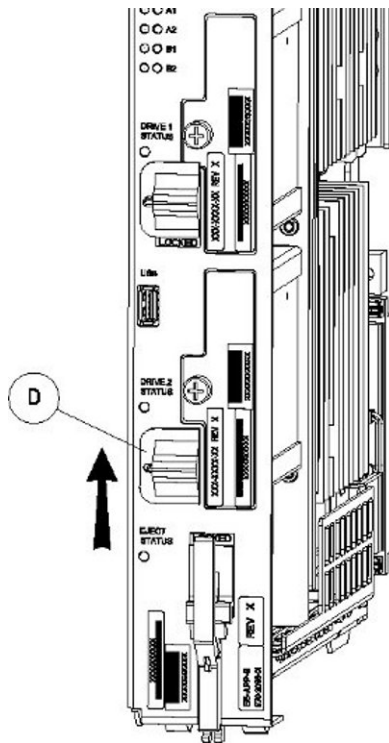

Figure 52: Drive Module Locked
2. Gently push the drive (A) in slowly until it is properly seated.
4. Move the drive module locking switch (D) from the unlocked to the LOCKED position.
When drive module locking switch (D) is transitioned from unlocked to locked, the LED will flash red to indicate the drive is locked and in process of coming online (see Figure 52: Drive Module Locked).